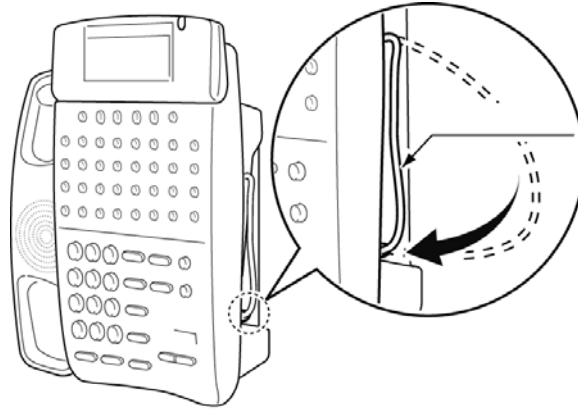

Figure 4-27: Hiding Excess Cord
7. Push spare line cord behind the telephone as shown in *Figure 4-27: Hiding Excess Cord*.